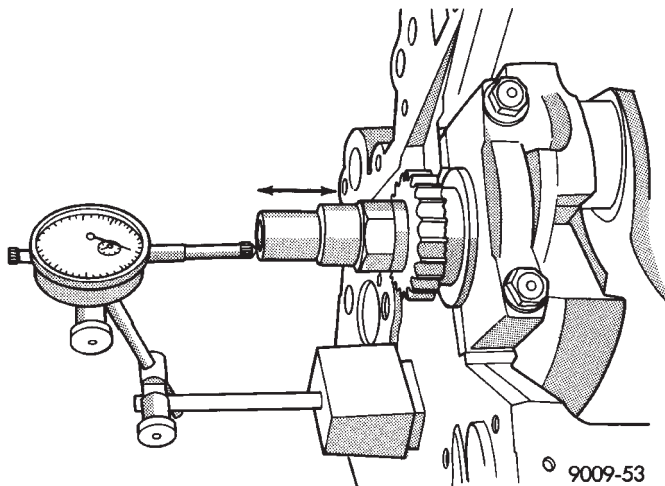

Fig. 11 Checking Crankshaft End Play
(1) Mount a dial indicator to front of engine, locating probe on nose of crankshaft (Fig. 11).
(2) Move crankshaft all the way to the rear of its travel.
(3) Zero the dial indicator.